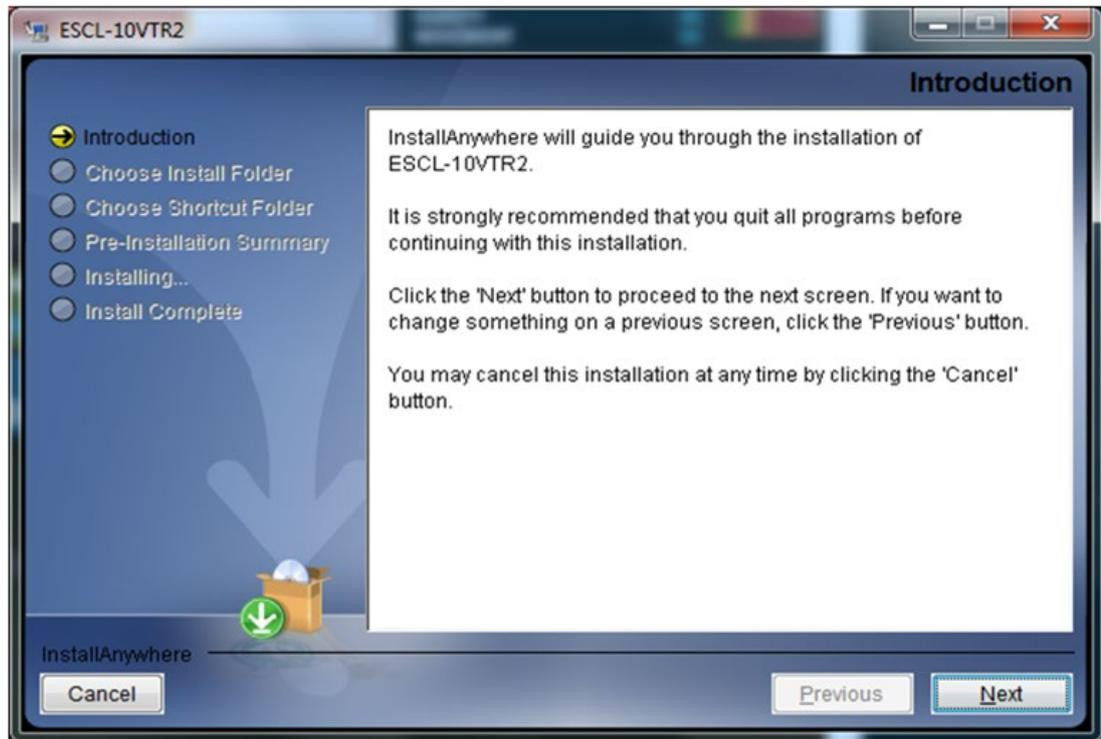

Figure 8-4: Installation introduction
- Click “Next” on “Introduction” window to choose destination of installation folder (figure 8-4).